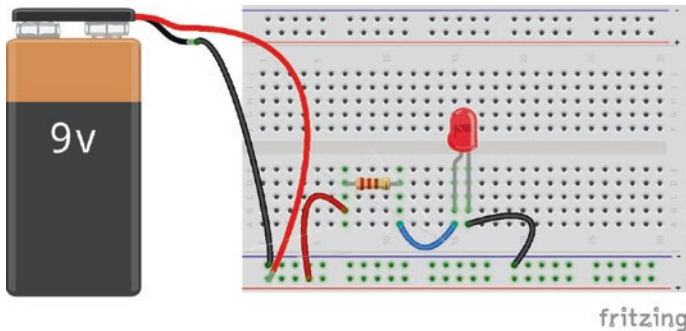

Figure 6-8. *Final LED Circuit with Power Connected*
Now your project is almost done. All you need to do now is to connect your power rails to a power supply. Connect a T-connector to a 9-volt battery, and then connect the red (positive) wire to the positive power rail on the breadboard.¹ You can plug it in anywhere on the rail, but I usually connect the power to the edge of the rail to leave more room for components. Then, connect the black (negative) wire to the negative power rail on the breadboard. As soon as you do this, the LED should light up! Figure 6-8 shows the final circuit.
To try out using your multimeter with your breadboard, configure your breadboard similar to Figure 6-8. Use this layout, and *not* one of the ones with fewer wires (you will see why in a minute). With the battery connected to the breadboard, set your multimeter to the highest voltage setting, and put the red lead in any empty hole in the positive rail. While that lead is there, put the black lead in any empty hole in the negative rail.
Now we will learn to measure current using the same circuit layout from Figure 6-8. Like voltage, measuring current requires that the power to your circuit be on. To measure current, use the DC Amperage (sometimes called DC Current) settings on your multimeter.
1. Start with the circuit you built in Figure 6-8. Measure the voltage drop across the resistor, and then measure the voltage drop across the LED. Now, measure the voltage drop across both of them (put the red multimeter lead on the left side of the resistor and the black multimeter lead on the right side of the LED). Write down your values.